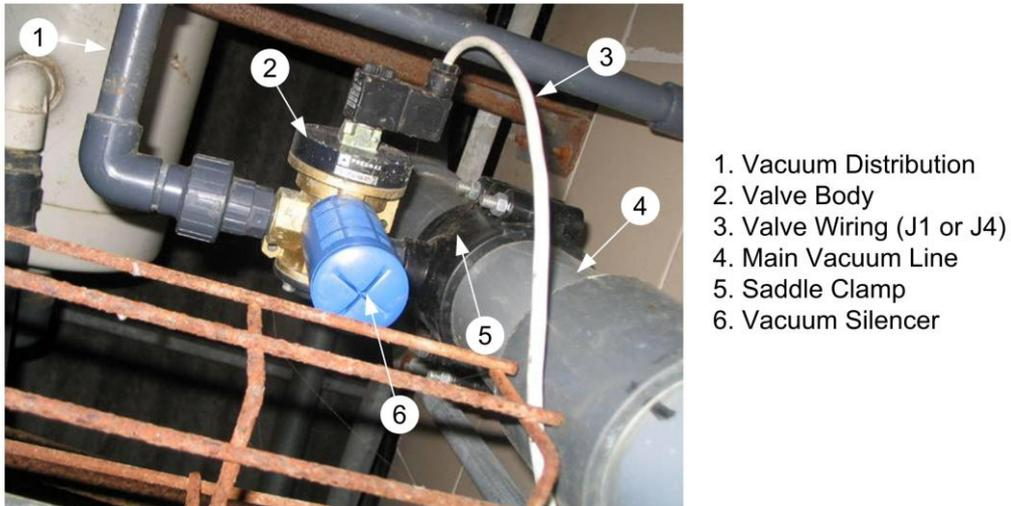

Figure 30: Wash Control Valve Attached
1. Use a saddle clamp with a $\frac{3}{4}$ " female connector to connect the Wash Control Valve to the main vacuum line (Figure 30, Detail 3).